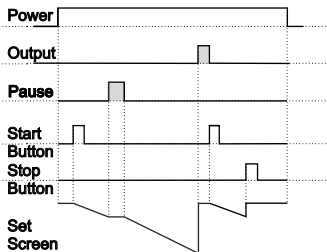

Figure 1.2
1.1.2 If downcount \boxed{DEC} = 1 and \boxed{OUT} is \boxed{OFF} the control diagram is shown in Figure 1.2